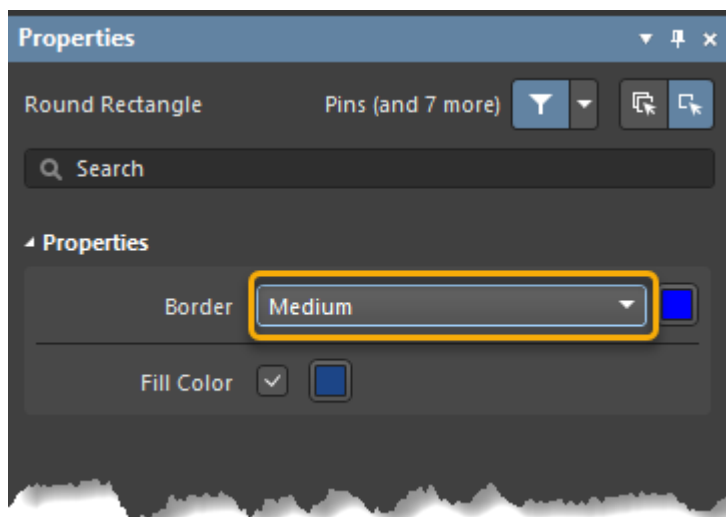

Figure 18. Rounded Rectangle Properties
27. Hit the **Tab** key to open its *Properties* panel. Change the *Border* to **Medium** and select your *Border* and *Fill* color of choice as shown in Figure 18.